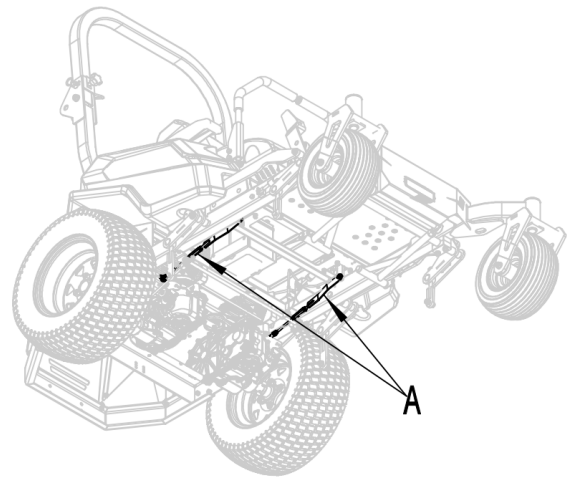
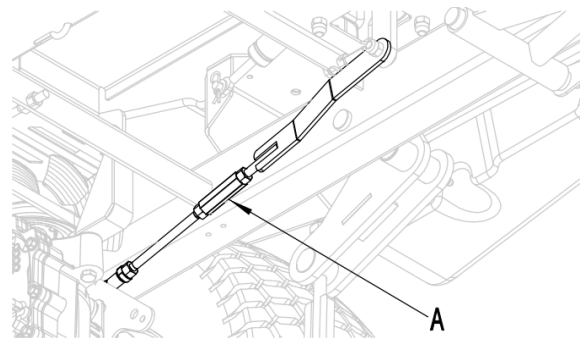

Fig.20
Fig. 21
- If the left wheel need to be adjusted, locate the position A(Refer to Fig. 20) ,the more detail of the position A is shown as the Fig. 21.